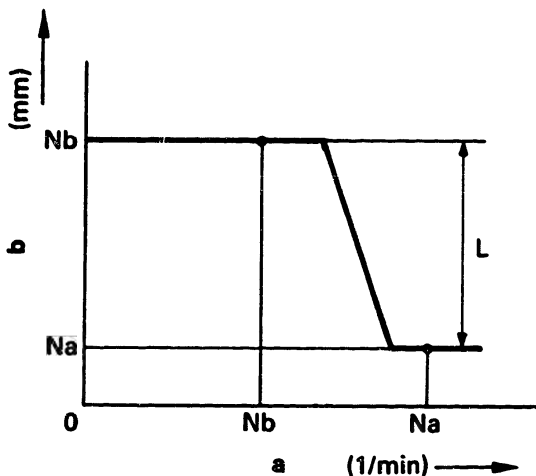

Fig. 75 RAD governor
Notes: 1. The control rack position "Ra" equals control rack position "Rb" minus the travel "L". (Fig. 75)
- Next, decrease pump speed to "Nb" and, by means of stroke adjusting screw (38) adjust flyweight lift for high-speed control "L" (control rack position "Rb"). (Figs. 75, 76 and 77)